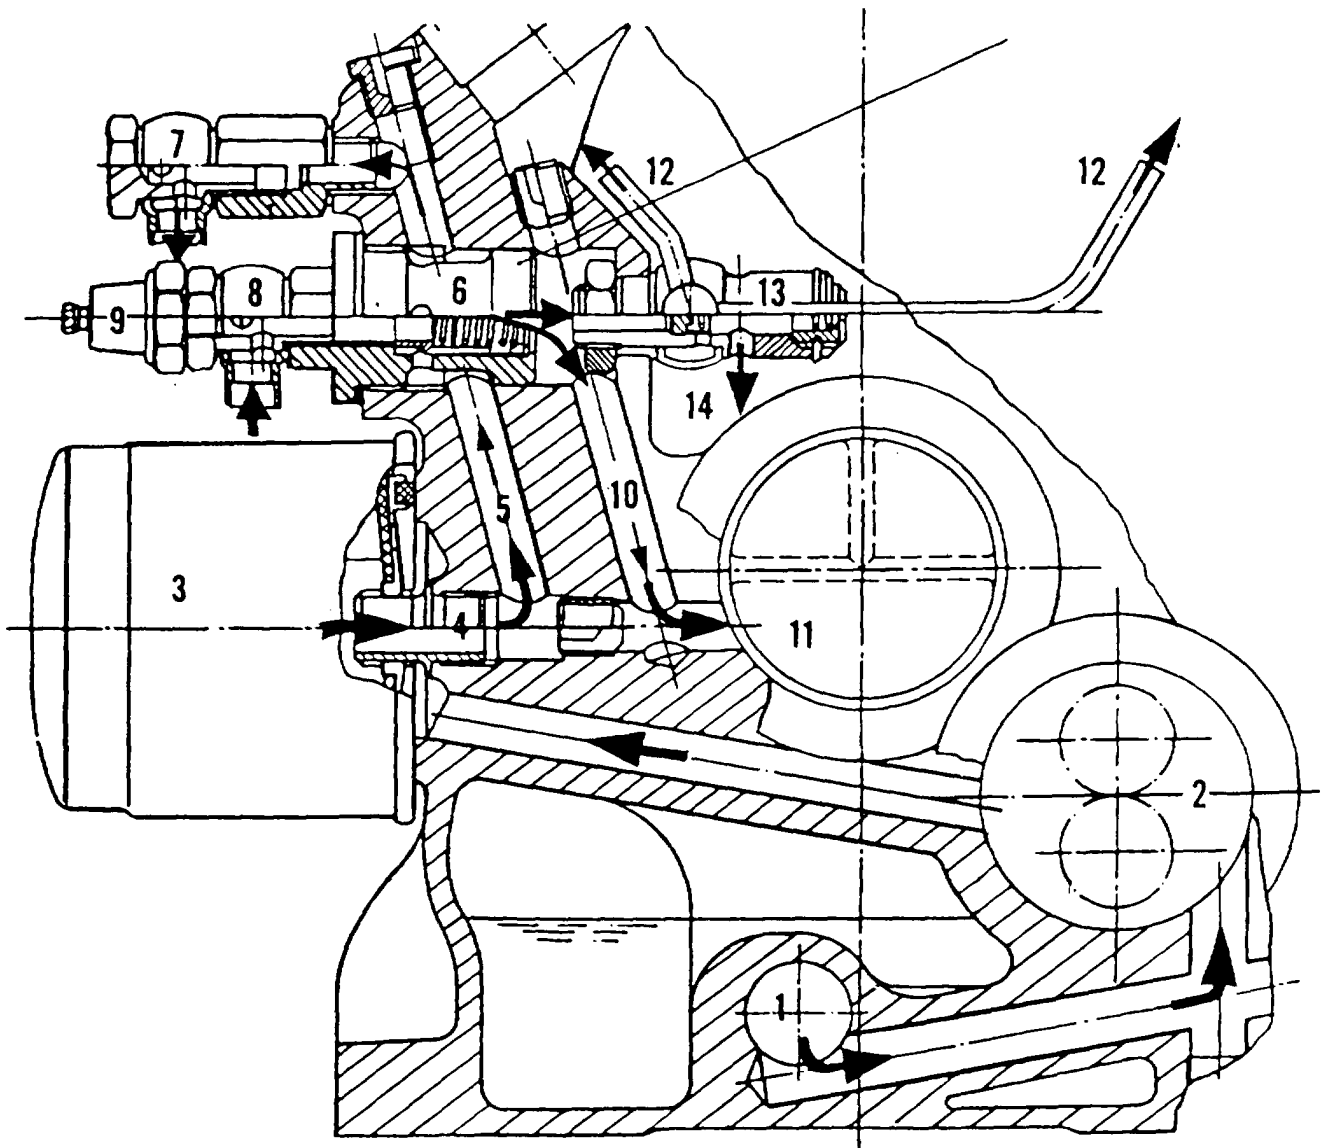

Figure A-73. Lubrication System Operation (2 Cylinder Engine)
If oil pressure becomes too high, however, main relief valve (13) discharges the oil directly back into the oil pan through passage (14). Oil pressure switch (9) opens the main relief valve when it senses high oil pressure. Figure A-73.